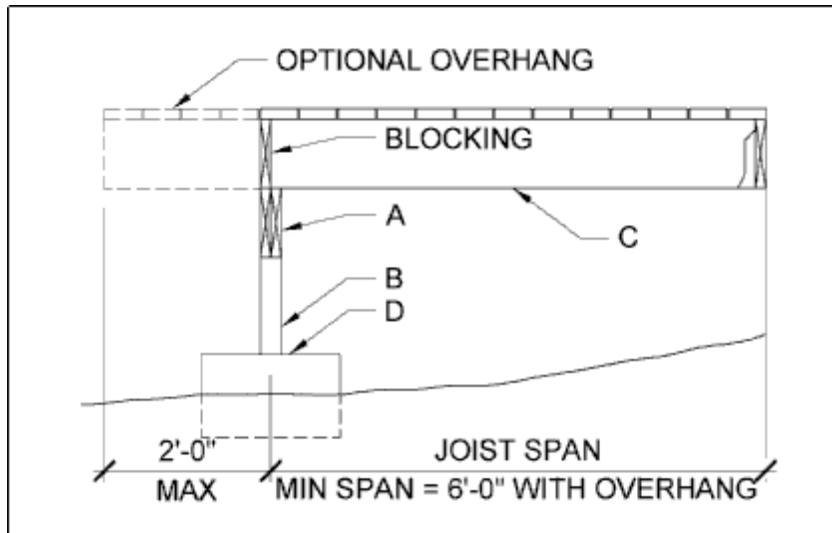

Figure 1 - Joist Span – Deck Attached At House
4. Determine how big and what configuration you want your deck. **Note:** The drawings contained in this document may indicate square or rectangular configurations; however, configurations can be diamond, trapezoidal, or other shapes as long as the longest spans are used to determine beam, joist, and footing sizes. The deck can have up to a two-foot maximum joist and/or beam overhang. See Figures 1, 2, and 3. Beams must be supported on each end by a post and cannot be supported with beam hangers off the house. (Beams are identified as item “A”, posts as item “B”, joists as item “C,” and footings as item “D.”) **It is recommended that you first determine the joist span “C,” and then note what beam and footing sizes you will need.**
The span of a joist is measured from the centerline of bearing at one end of the joist to the centerline of bearing at the other and does not include overhangs. Maximum joist span lengths are noted in Tables 2 and 3. See Figures 1 and 2 for joist span types.